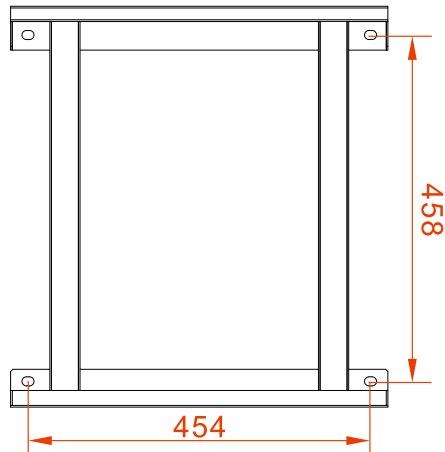

Figure3-3 The dimensions of installation holes of installation holder(Unit: mm)
The inverter can be installed on the wall or metal holder through equipped installation holder, the dimensions of installation holes of the installation holder is as shown in Figure3-3.
- Step 2 According to the dimensions of installation holes of installation holder (as shown in Figure3-3), mark the position of installation holes on the wall. Drill holes on the wall vertically by hammer drilling according to the marked position.